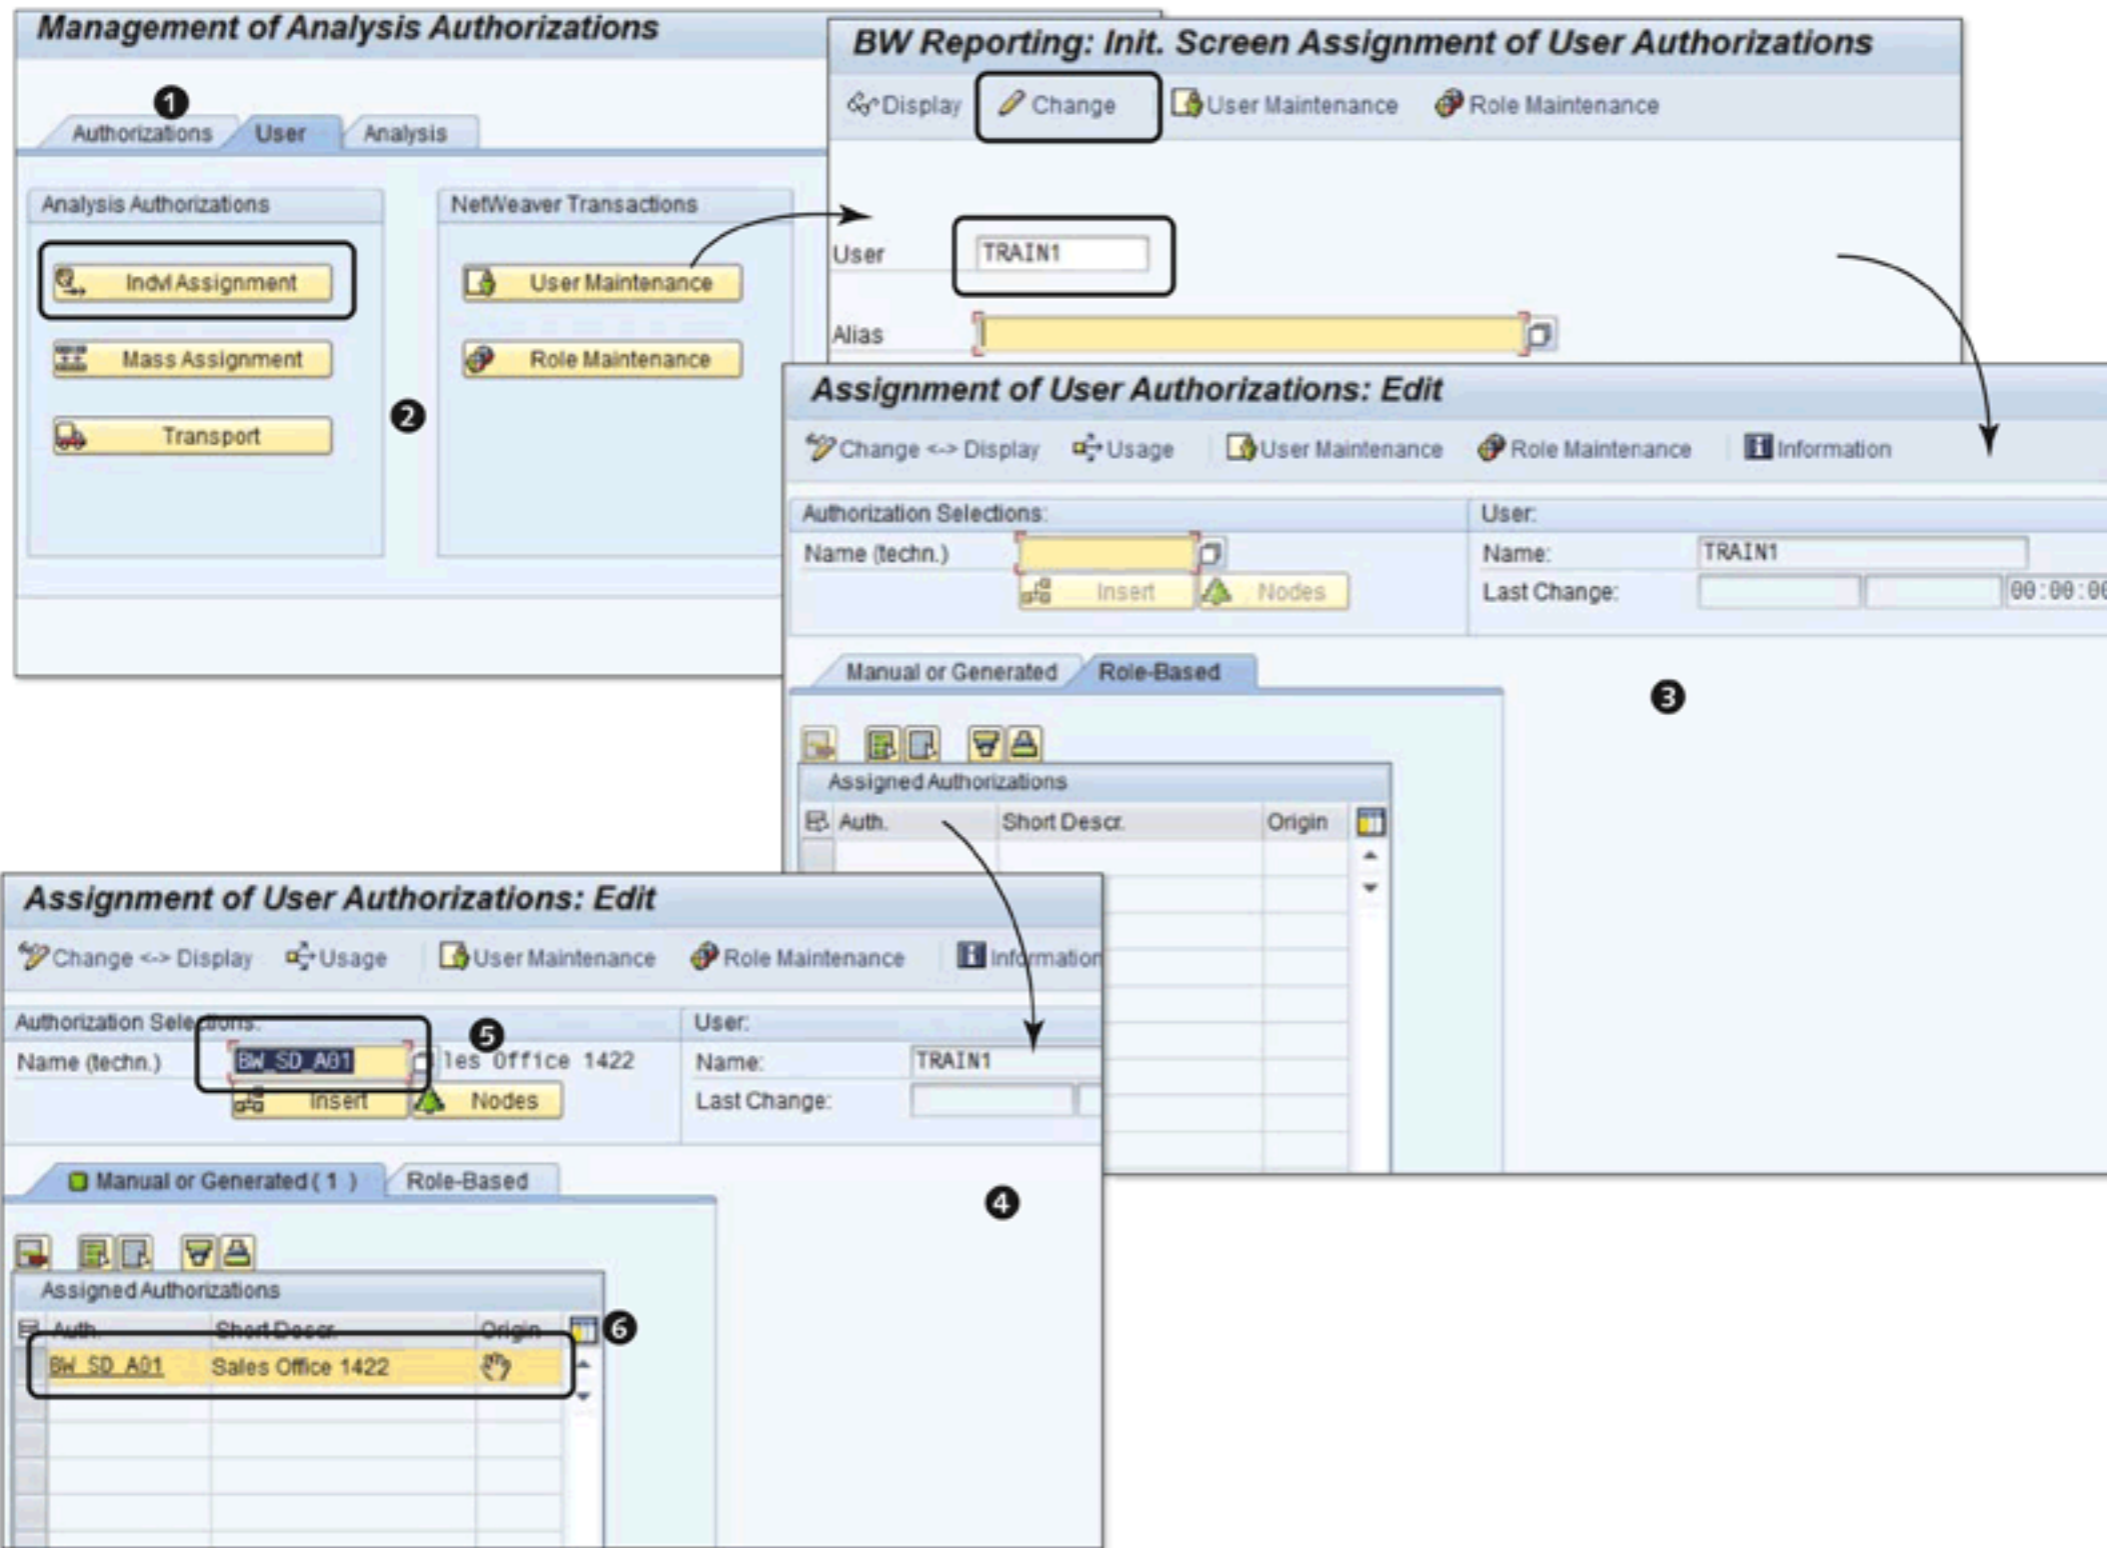

Figure 14.45 Assign Analysis Authorization
The third step is to assign the authorization object to a user ID. Use Transaction RSECADMIN, and the system opens MANAGEMENT OF ANALYSIS AUTHORIZATIONS. Click on the USER tab (Figure 14.45). You're now assigning the authorization object to a user ID for providing access to analysis on reports for sales office 1422.
The screen has two separate boxes: ANALYSIS AUTHORIZATIONS and NETWEAVER TRANSACTIONS (❶ of Figure 14.45). Click on the INDVL. ASSIGNMENT button (❷), and the system takes you to BI REPORTING: INIT. SCREEN ASSIGNMENT OF USER AUTHORIZATIONS. Use the user ID TRAIN1 (Figure 14.45) for the sales manager (for sales office 1422), and click on the CHANGE button (Figure 14.45). The system brings you to ASSIGNMENT OF USER AUTHORIZATIONS: EDIT (❸). The following screen has two tabs: MANUAL OR GENERATED and ROLE BASED (❹). By default, the system takes you to the MANUAL OR GENERATED tab; note that there is no row for authorization assignments in the ASSIGNED AUTHORIZATION table. In the NAME (TECHN.) field (❺), enter the name of the authorization object that you created (BW_SD_A01, in our example), and click on INSERT. The authorization object is assigned to the user referred to in ❻. Click on the SAVE icon, and the system displays a message indicating successful assignment at the bottom of the screen. Use the BACK icon to return to MANAGEMENT OF ANALYSIS AUTHORIZATIONS.